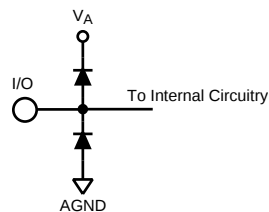

Figure 2.
- (1) The inputs are protected as shown below. Input voltage magnitudes above V_A or below GND will not damage this device, provided current is limited per Note 4 of the Absolute Maximum Ratings Table. However, errors in the A/D conversion can occur if the input goes above 2.6V or below GND as described in the Operating Ratings section. See Figure 2.
- (2) With a full scale differential input of $2V_{P-P}$, the 14-bit LSB is $122.1\text{ }\mu\text{V}$.
- (3) Typical figures are at $T_A = 25^\circ\text{C}$ and represent most likely parametric norms at the time of product characterization. The typical specifications are not ensured.
- (4) Parameters specified in dBFS indicate the value that would be attained with a full-scale input signal.
- (2) With a full scale differential input of $2V_{P-P}$, the 14-bit LSB is 122.1 μV .
- (4) This parameter is specified by design and/or characterization and is not tested in production.
- (5) I_{DR} is the current consumed by the switching of the output drivers and is primarily determined by load capacitance on the output pins, the supply voltage, V_{DR} , and the rate at which the outputs are switching (which is signal dependent). $I_{DR} = V_{DR}(C_0 \times f_0 + C_1 \times f_1 + \dots C_{13} \times f_{13})$ where V_{DR} is the output driver power supply voltage, C_n is total capacitance on the output pin, and f_n is the average frequency at which that pin is toggling.